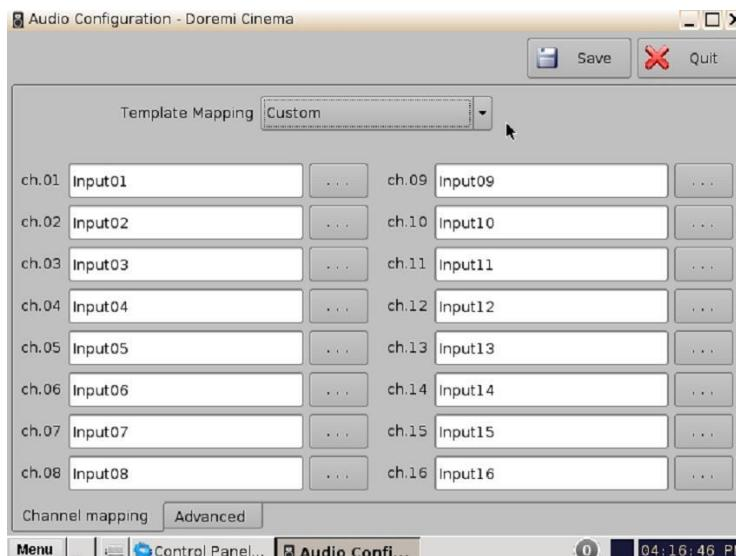

Figure 49: Custom Mapping
- The following window will appear (Figure 49).